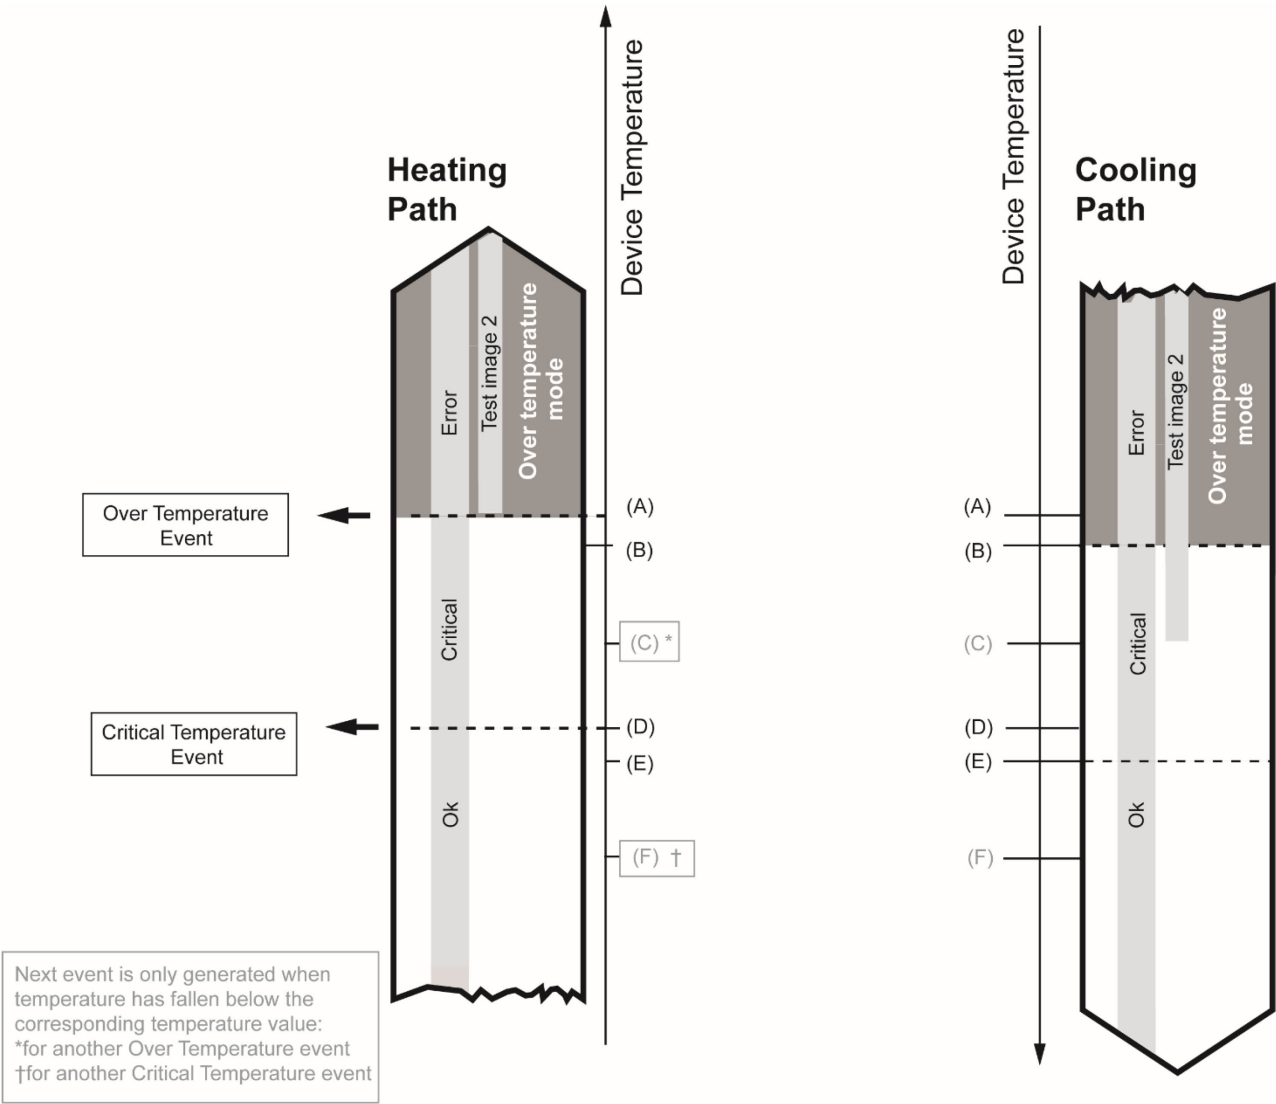

Figure 2: Over Temperature Behavior for Heating and Cooling Paths
|  | <p>It depends on the camera model (ace GigE or ace USB) at what temperature a temperature-dependent event occurs and when the temperature status changes [Ok, Critical, Error (ace GigE)/Over Temperature (ace USB)].</p> <p>The letters (A) to (F) in Figure 2 are placeholders for these temperature values that are relevant during the heating and cooling paths.</p> <p>The following sections refer to these placeholders.</p> |
| Letter in Figure 2 | ace USB | ace GigE |
In the following the letters in the text represents certain temperatures; see Figure 2 and Table 2.